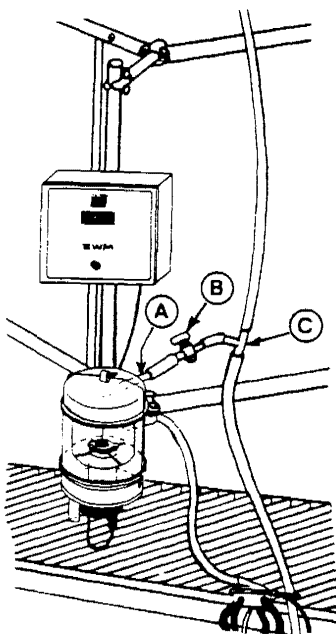

Fig. 3
1. It is essential that the EWM Flo-meter be mounted above the milk line (Fig. 3) in a level position.
- Cut a piece of $\frac{5}{8}$ " milk hose 2" to 3" in length and attach to water inlet on cover. (See A, Fig. 3) Attach the 711012 valve, included, to the end of the hose. (See B, Fig. 3) Splice in the 256946 plastic tee in an appropriate location between the 711012 valve and the C.I.P. unit washer. (See C, Fig. 3) With another piece of hose, connect the plastic tee and the valve.